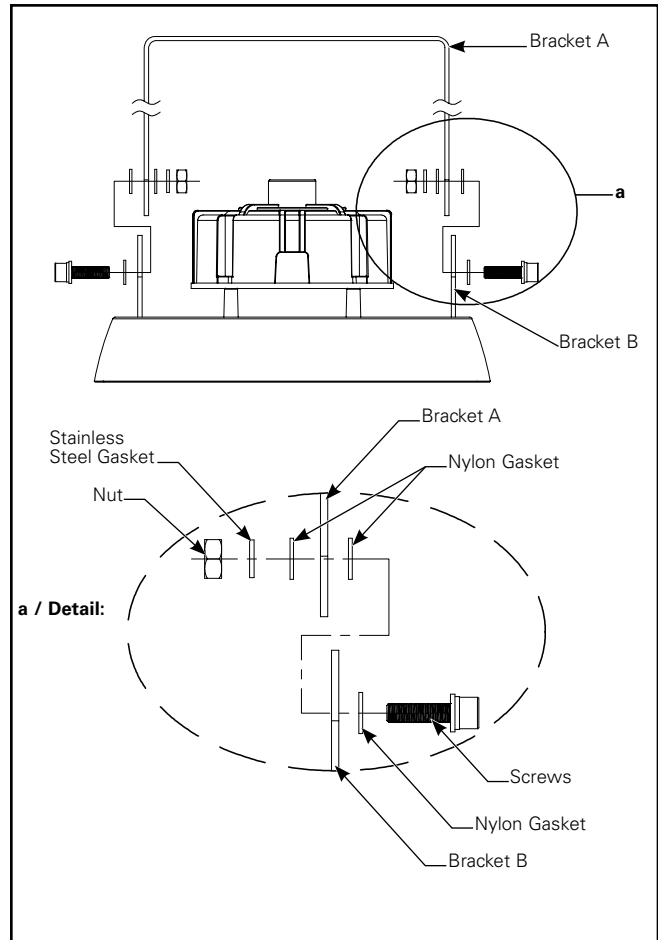

Figure 11.
2. Install Bracket A on Bracket B. (Figure 11.)